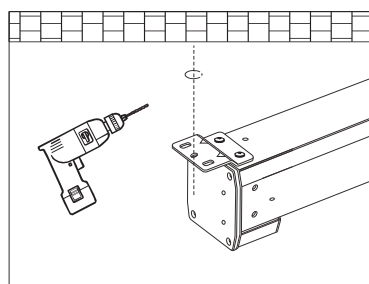
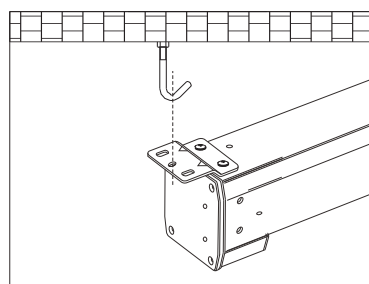

Figure 3
Figure 4
2) Drill one hole on the ceiling with an electric drill and fix the hook in it. (As the above Figure 3 & Figure 4 show)